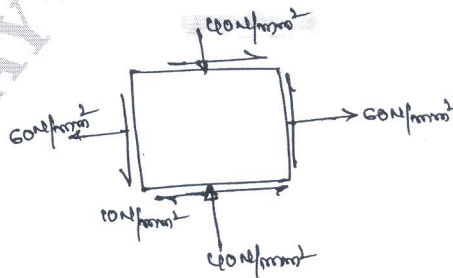

Fig Q3(b)
- b. The state of stress at a point in a strained material is as shown in Fig Q3(b). Determine :